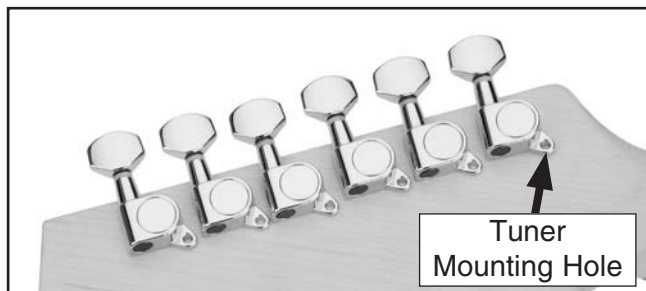

Figure 13. Tuners aligned to edge of headstock.
- Align the tuners perpendicular to the edge of the headstock and parallel to each other as shown in **Figure 13**. Use a strip of masking tape to secure their position on the headstock.